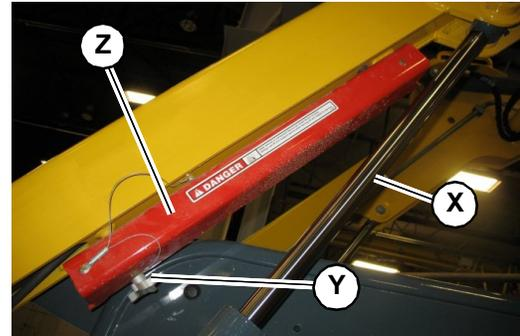
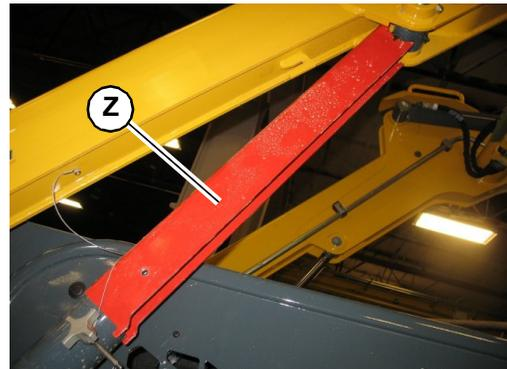
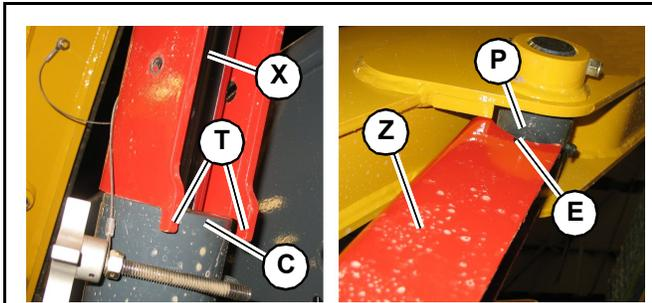

Fig. 96 – Lift Arm Support in Storage Position
Fig. 97 – Lift Arm Support Applied
Fig. 98 – Lift Arm Support Proper Positioning
- a. Remove retaining fastener (Y, Fig. 96) securing lift arm support (Z) in the storage position.
- b. Position the lift arm support (Z, Fig. 97) over the lift arm cylinder rod (X, Fig. 96 and Fig. 98).
- c. Position the lift arm support with the curved end (E, Fig. 98) of the support tight against the end of the cylinder rod (P), and tabs (T) on the support hooked over cylinder tube head (C) as shown.
9. Start the machine and lower the lift arm against lift arm support (Z). Verify that lift arm support (Z) is properly positioned as shown in Fig. 98.